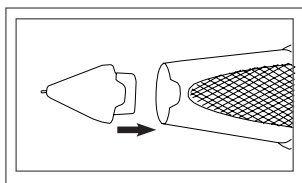
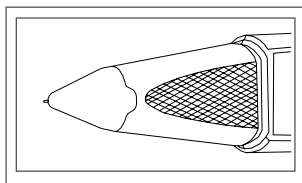

Fig. 1.08
Fig. 1.09
2. To insert a new magnetic tip, position the magnetic tip as shown in **Fig. 1.08**, and slide it into the main body to secure it magnetically. as shown in **Fig. 1.09**.